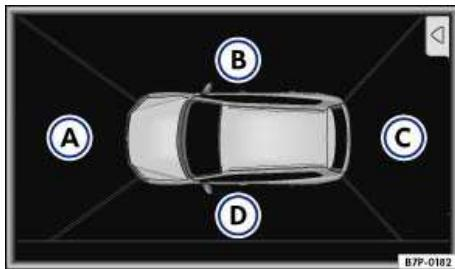

Fig. 293 Display of the Area View: Bird's eye view.
There are 4 different camera views ⇒ fig. 293:
Select the different camera views by tapping the individual areas in the bird's eye view ⇒ fig. 293 (A) to (D) or mini bird's eye view ⇒ fig. 294 (A).
- **Bird's eye view:** For an all-round view of the vehicle , also for off-road driving . The bird's eye view is shown on the full screen ⇒ fig. 293.
Press button ⇒ fig. 295. The bird's eye view is activated on the Infotainment System screen ⇒ fig. 293. The display will not switch on at speeds above about 9 mph (15 km/h).